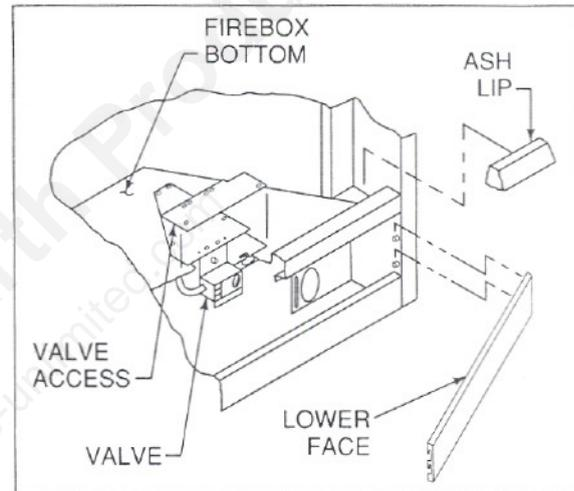
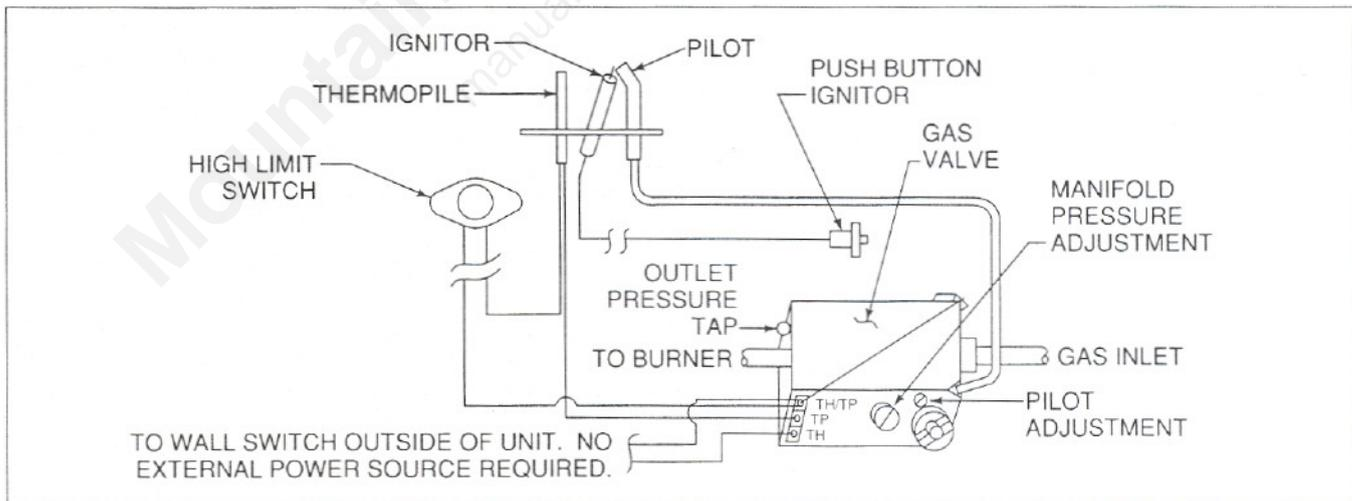

Figure 4
Figure 5
Connect the wires from outside of unit to the supplied wall switch as shown in Figure 5. The wall switch should be installed in a convenient location. **NOTE: The maximum wire length is 40 ft.** Run the  $\frac{3}{8}$ " pipe approximately 3" into the unit. Connect the gas line to the appliance, using  $\frac{3}{8}$ " 45° flare fitting. Check for gas leaks with a soap and water solution. See Figure 4 for location of gas valve.
1. Remove the pilot adjustment cap from the valve. See Figure 5.